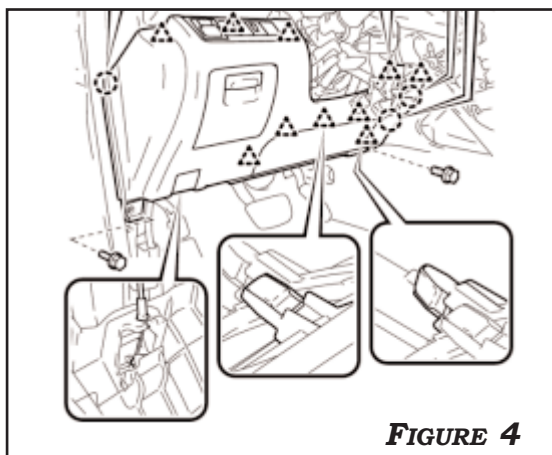

FIGURE 4
4. REMOVE 2 BOLTS AND DISENGAGE CLIPS. DISCONNECT EACH CONNECTOR AND HOOD CABLE ASSEMBLY TO REMOVE THE LOWER INSTRUMENT FINISH PANEL. **FIGURE 4**